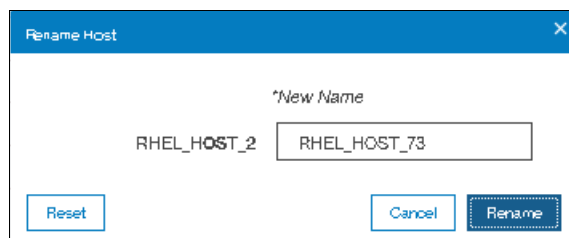

Figure 8-19 Renaming a host
4. Type in the new host name and click **Rename** as shown in Figure 8-19